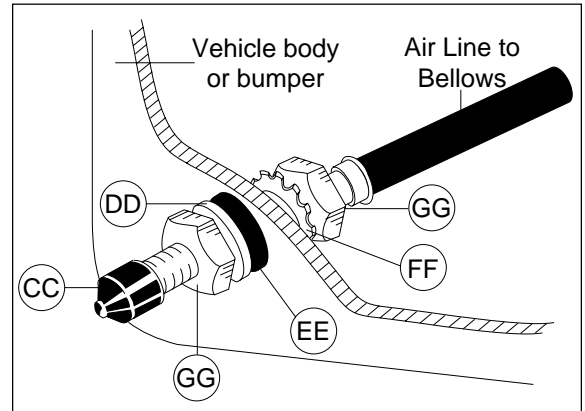

Figure 7
4. Place a $\frac{5}{16}$ " nut (GG) and a star washer (FF) on the air valve. Leave enough of the inflation valve in front of the nut to extend through the hole and have room for the rubber washer (EE), flat washer (DD), and $\frac{5}{16}$ " nut (GG) and cap (CC). There should be enough valve exposed after installation - approximately $\frac{1}{2}$ " - to easily apply a pressure gauge or an air chuck (Figure 7).
5. Push the inflation valve through the hole and use the rubber washer (EE), flat washer (DD), and another $\frac{5}{16}$ " nut (GG) to secure it in place. Tighten the nuts to secure the assembly in place (Figure 7).
6. Route the air line along the frame to the air fitting on the air spring. Keep at least 6" of clearance between the air line and heat sources, such as the exhaust pipes, muffler, or catalytic converter. Avoid sharp bends and edges. Use the plastic tie straps (BB) to secure the air line to fixed, non-moving points along the chassis. Be sure that the tie straps are tight, but do not pinch the air line. Leave at least 2" of slack to allow for any movement that might pull on the air line.